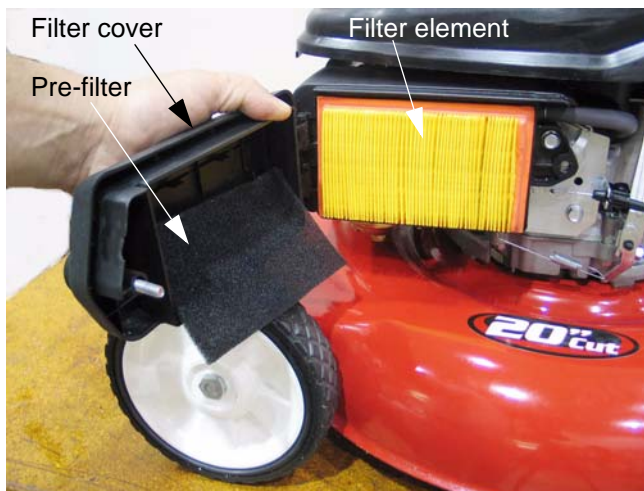

Figure 8.11
- 8.11. The air filter and pre-filter are easily accessible behind the air filter cover. See Figure 8.11.